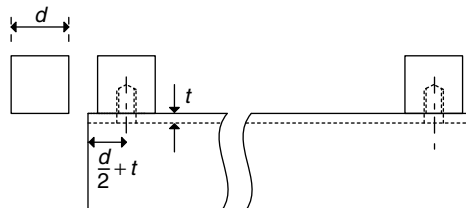

Figure 2.29
- Looking down onto the finished frame, the M5 clearance holes must be offset from the end of the channel by half the pillar cross-section, plus the channel thickness (see Figure 2.29).